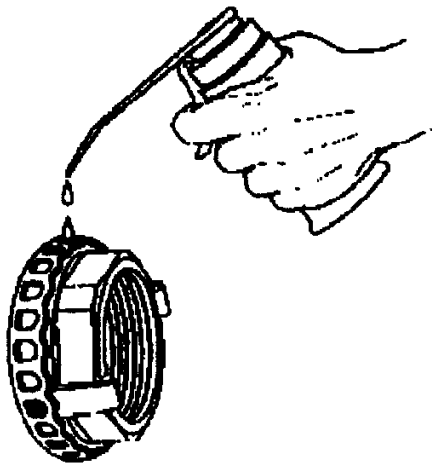

Figure 18 Apply Lubricating Oil
1. Apply a few drops of light weight lubricating oil through one of the holes of the retaining washer. This will allow the nut and retaining washer to rotate freely during installation (Figure 18).